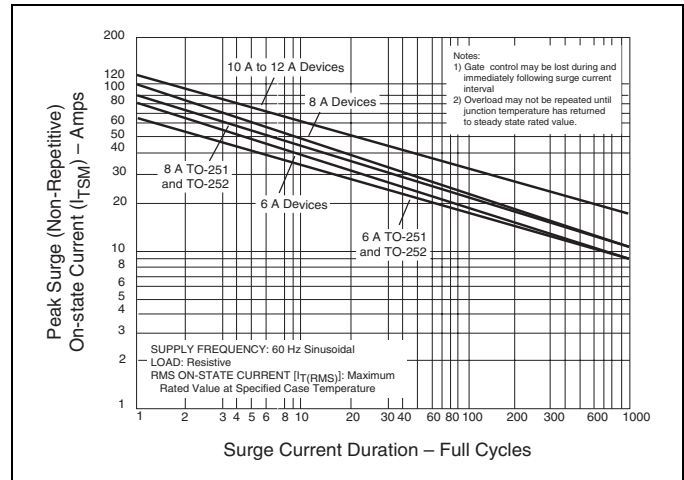
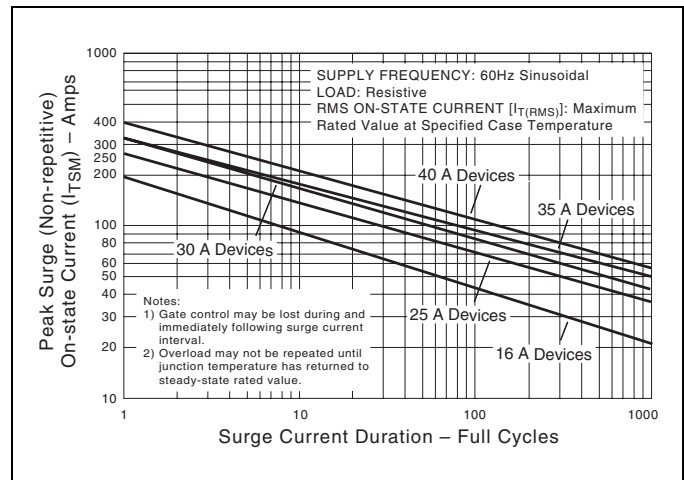

Figure E4.10 Peak Surge Current versus Surge Current Duration (6 A to 12 A)
Figure E4.11 Peak Surge Current versus Surge Current Duration (16 A to 40 A)
- (9) See Figure E4.10 and Figure E4.11 for surge rating with specific durations.